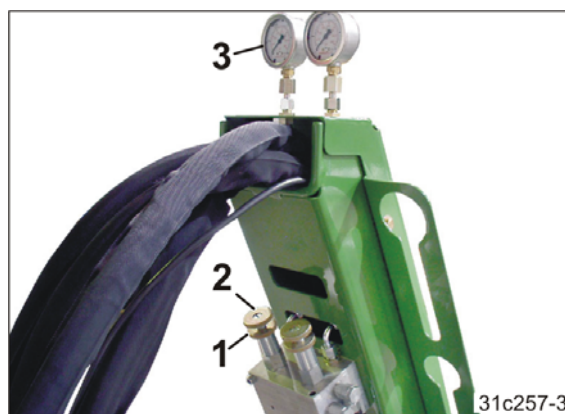

Fig. 188
1. Unscrew the lock nut (Fig. 188/1).
2. Turn the valve screw (Fig. 188/2) to adjust the fertiliser coulter pressure.
- Read off the fertiliser coulter pressure at the pressure gauge (Fig. 188/3).
1. Adjust the fertiliser coulters pressure to 0 bar by turning the valve screw (Fig. 188/2). Read the fertiliser coulters pressure from the pressure gauge (Fig. 188/3).